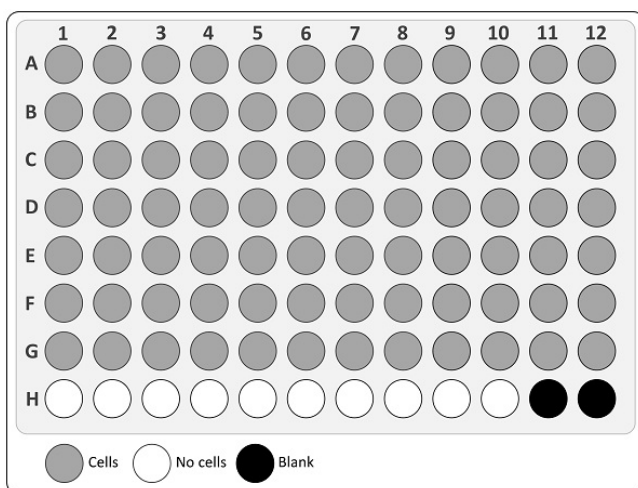

Figure 2. Plate Map.
- We recommend following the plate map suggested in figure 2 to facilitate assay procedure.